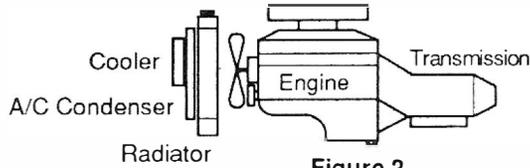

Figure 2
**Location 1.** This location is in front of both the radiator and the air conditioning condenser. This is the preferred installation location, as it permits 100% rated cooling efficiency (See Fig. 2).